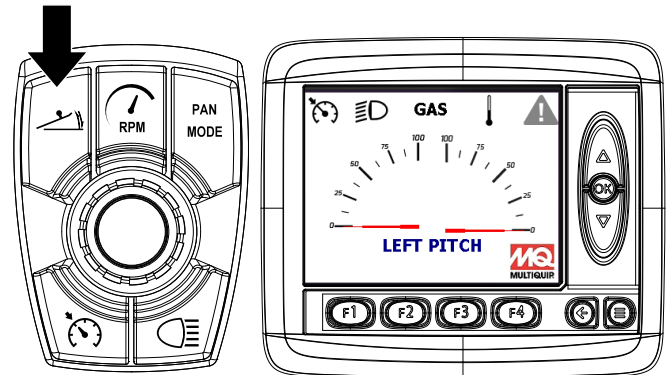

Figure 37. Digital Display (Blade Pitch)
7. Blade pitch can be set independently for each rotor (single pitch) or for both rotors simultaneously (dual pitch). Press the **blade pitch button** to view the **blade pitch adjustment screen** on the digital display (Figure 37).